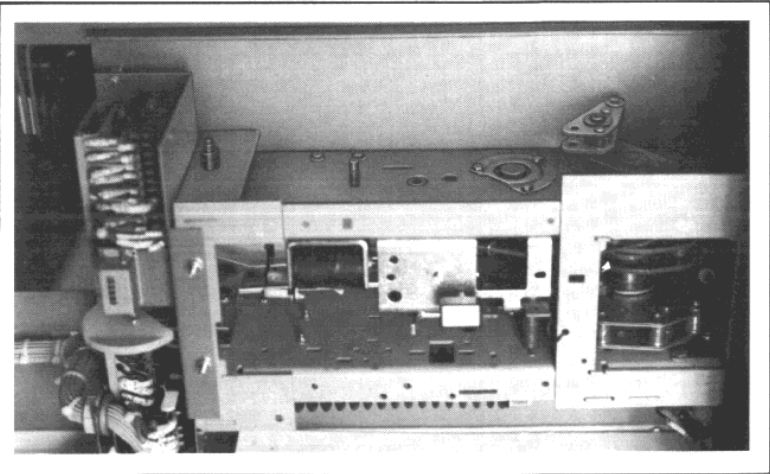

Figure 13
5. Detach and remove the springs. (Figure 13) shows top spring location after removal.